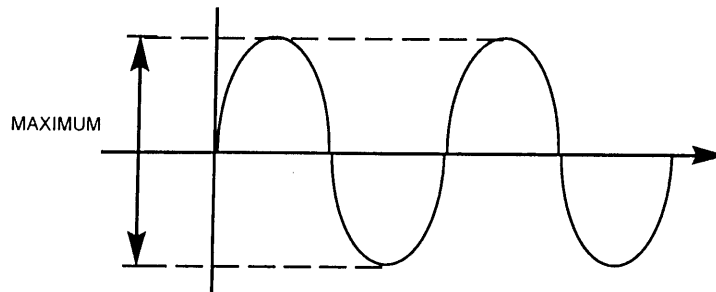

FIG.6
2. Connect oscilloscope to TP001, adjust VR001 with stereo signal to get a max waveform as Fig.6.